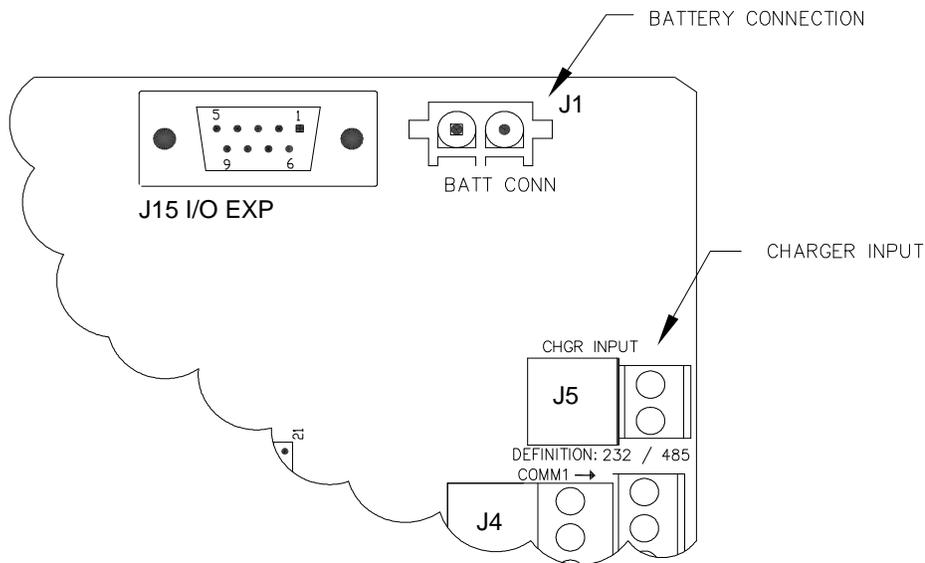

Figure 53 XFC^{G4} Board Battery and Charger Input Connections
3. Connect the battery pack connector to the digital board battery connection J1 connector (see Figure 53).
NOTICE- Equipment damage: Do not connect the solar panel power cable to the flow computer unless the main battery pack has been connected to J1 (see Figure 53).
5. Remove the associated EXT CHGR terminal block J5 (see Figure 53) from the flow computer board.